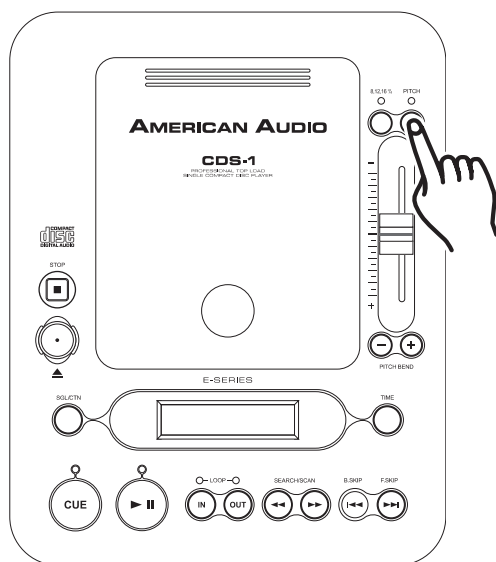

Figure 12
Adjusting the Pitch Slider's Range (19): You may change the *PITCH SLIDER'S* (19) operating range. To change the operating range be sure the pitch function is turned on, see figure 12 on the previous page. The pitch percentage can be changed between +/-8%, +/-12%, and +/-16%. +/-8% will allow the least amount of pitch manipulation and +/-16% will allow the most amount of pitch manipulation. To adjust to the different values tap the *P.S. BUTTON* (23). The *Pitch Select LED* (23) will indicated the current pitch level. Flashing red for +/-8%, off +/-12%, or glowing solid red for +/-16%. Note, the pitch function must be activated for a LED reading.